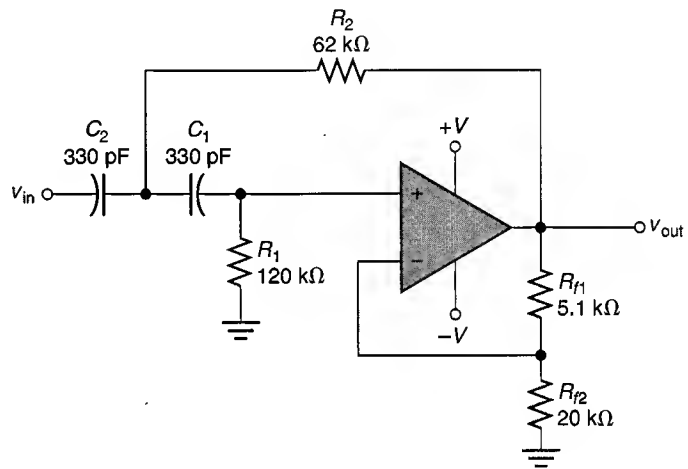

FIGURE 17.49
14. Calculate the lower cutoff frequency and closed-loop voltage gain of the filter in Figure 17.49.